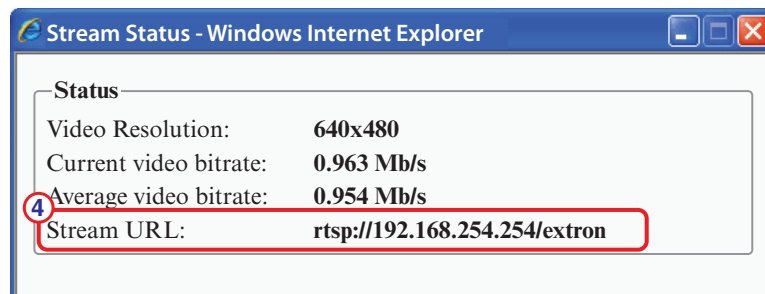
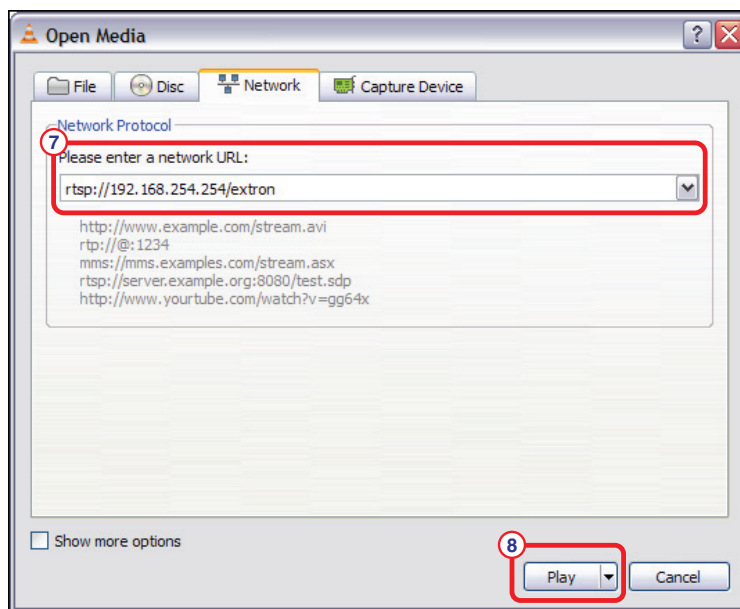

Figure 104. Stream Status Window
Figure 106. Enter Stream URL Information and Play
4. The Stream Status window appears. Note the information in the **Stream URL** field (see figure 104).
- The Open Network Media window appears. In the **Please enter a network URL** field, enter the stream URL that was noted in step 4 (see figure 104 on the previous page figure 106 below).
- Click **Play** (see figure 106). After a few seconds, the media streaming from the SME 100 is played on the VLC media player.